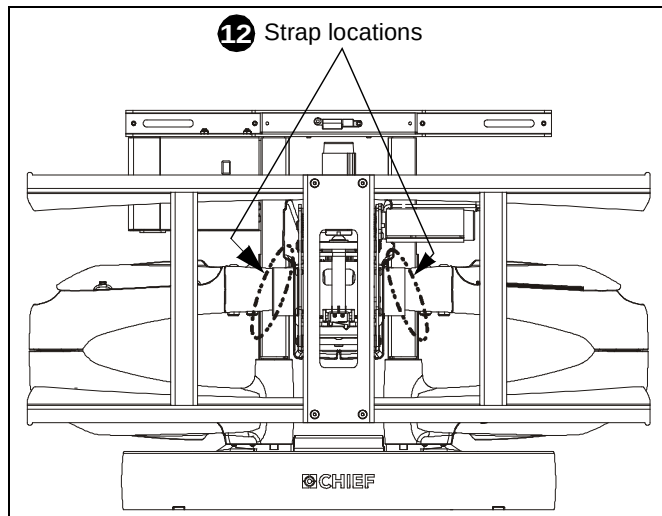

Figure 8
12. Remove two orange Velcro® straps holding PXR arms in place. (See Figure 8)